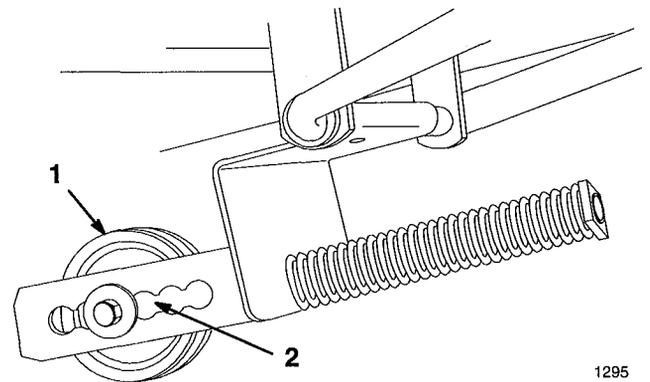

Figure 32
3. Remove nut, washer and fixed idler from idler assembly and relocate in next hole position to change belt tension as required. (Fig. 32).